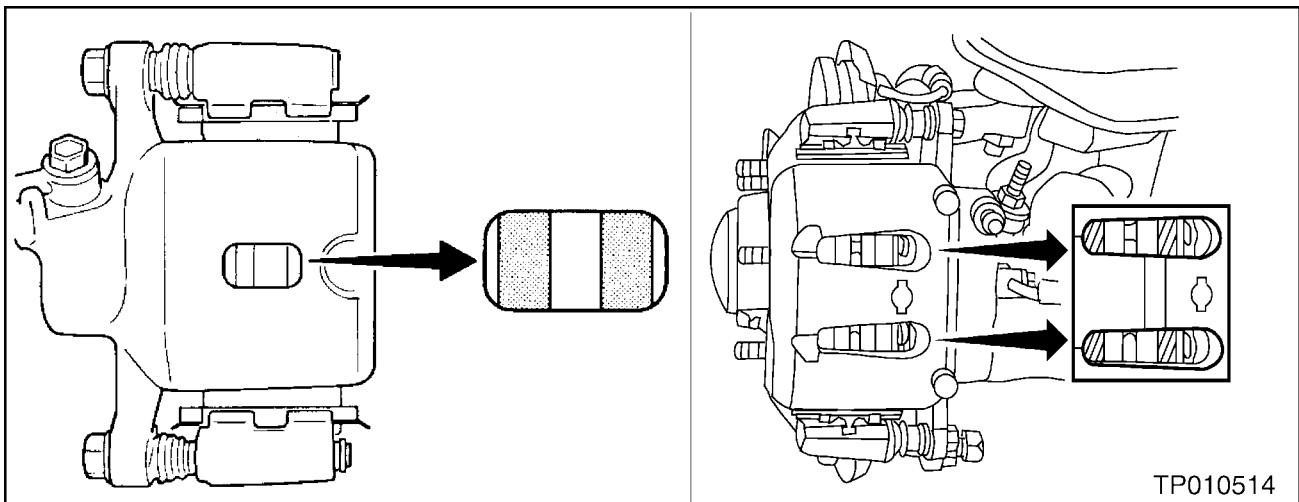

Figure 1 (examples only, your vehicle may differ)
- Disc pads for wear (see Figure 1) or damage.